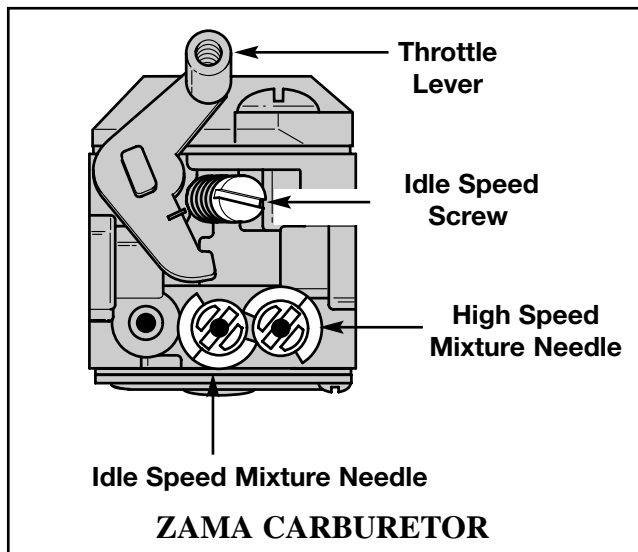

Fig. 31
- c) For **Zama** carburetors: Back the idle speed screw (Fig. 31 - page 14) **out (counterclockwise)** until it *does not contact* the throttle valve located inside of the carburetor. This is accomplished by carefully watching for the movement of the throttle lever to stop. Then turn the screw **in (clockwise)** until it just *begins to move* the throttle lever, then continue turning **1 1/2 turns.**